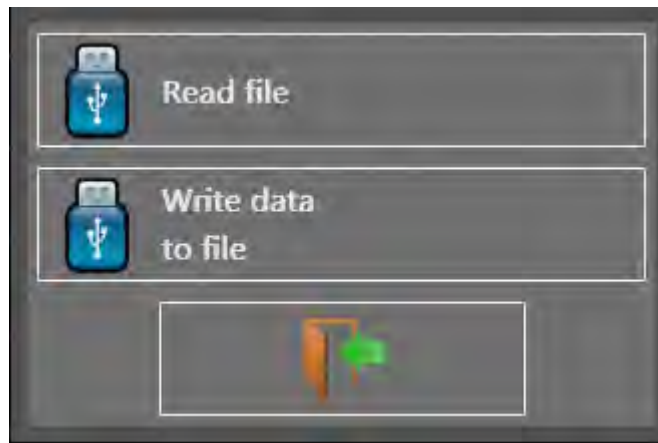

Figure 7.5 Load Saved Recording File Dialog
1. Press the  button. This will open Figure 7.5.